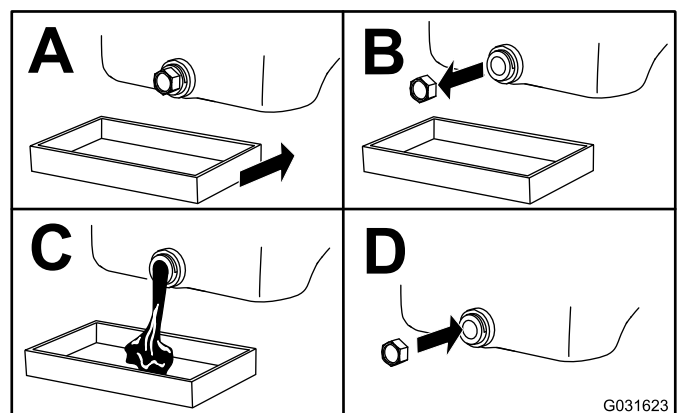

Figure 47
3. Change the engine oil as shown in Figure 47.